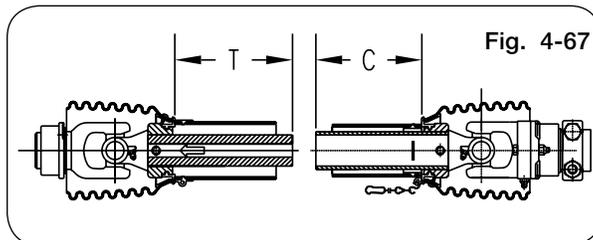

Fig. 4-67
2. Pull apart PTO telescoping shaft ends and measure lengths "T" & "C" (Figure 4-67)